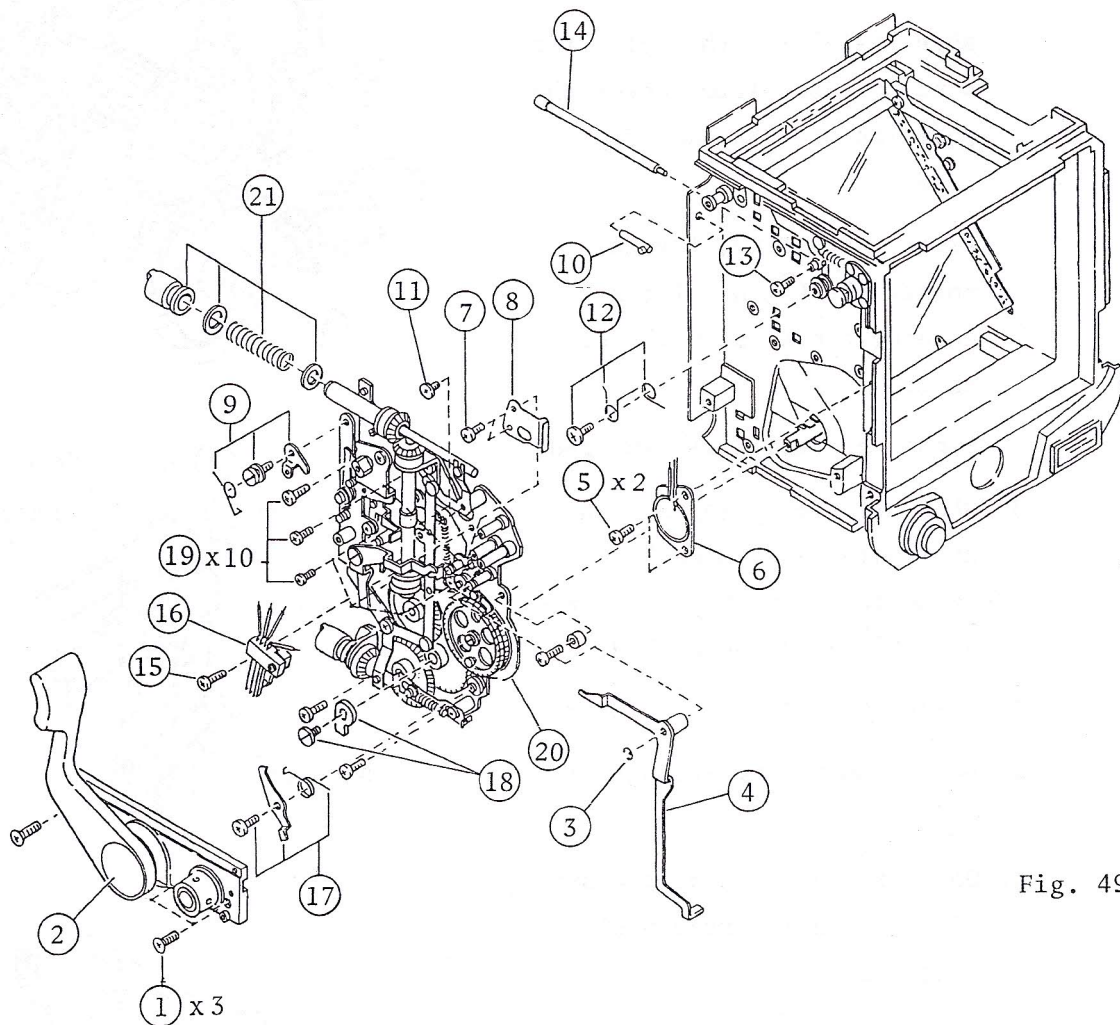
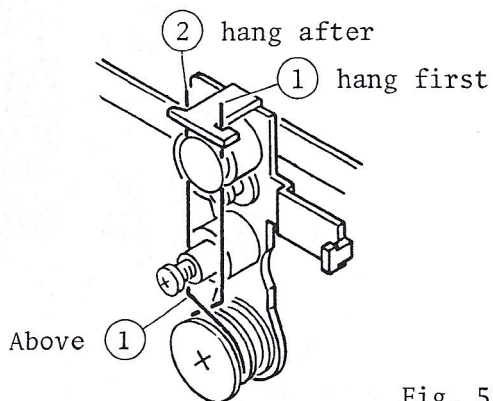

Fig. 49
Fig. 51
- The arabic numeral in a circle as shown in Fig. 49 indicates procedure of disassembly.
3. When set the spring for the horizontal screen mask connector, hang (1) first and next (2) as shown in Fig. 51.
4. Check position of (4) lever.
5. Never damage two springs of (B).
6. Don't forget to hang the spring of (17) winding stop pawl (Fig. 49).